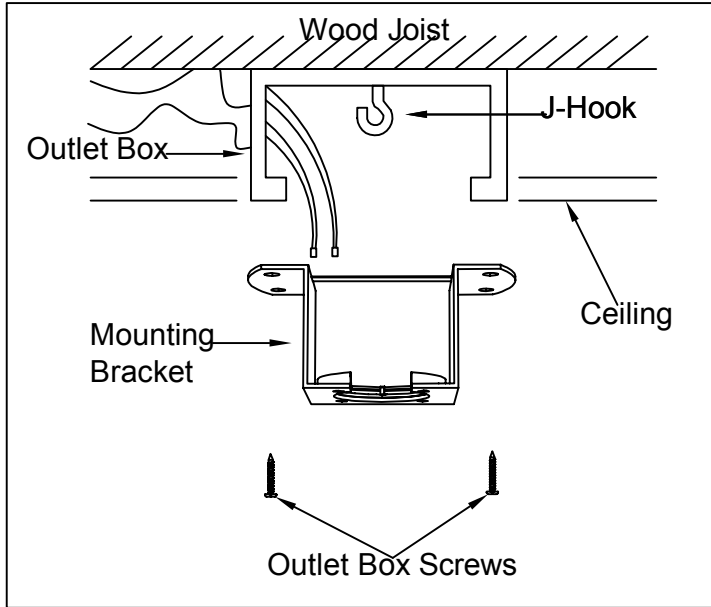

Figure 3.1
- Install J-Hook through center of outlet box and into the wooden joist.(Figure 3.1)